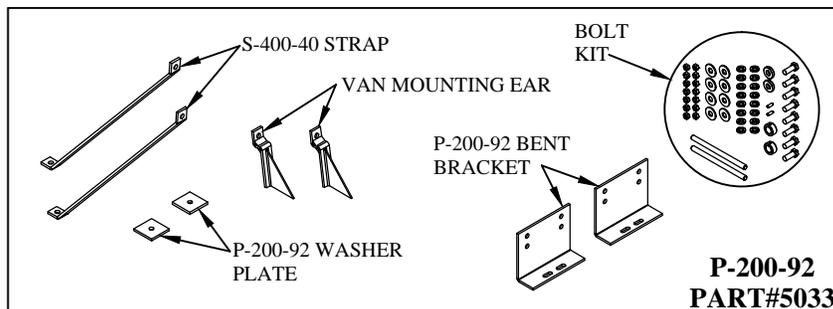

Figure 1: Part Identification.
2. **Verify** mounting kit (Figure 1 and Table 1).